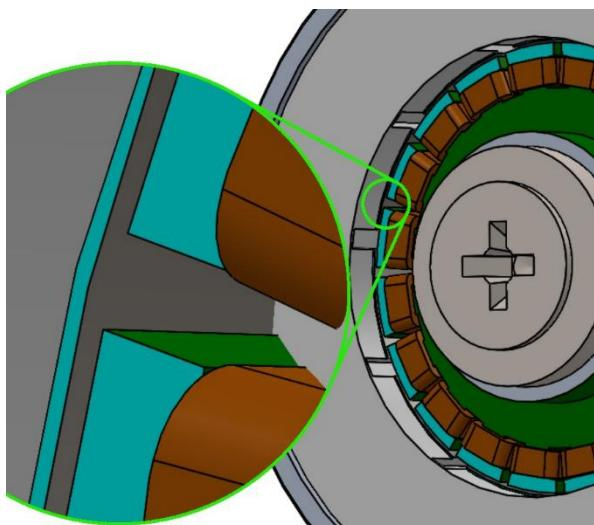

Figure 8: Resolver rotor alignment
5. Mount the resolver stator (3) to the mounting flange of the resolver bracket (7). While holding the resolver stator (9) down, use DIN 914 set screws (8) to bolt it down from the side. Using threadlocker glue supplied with the kit on the threads is recommended.
6. Make sure all the highlighted surfaces (blue) in Figure 8 are aligned in one plane.